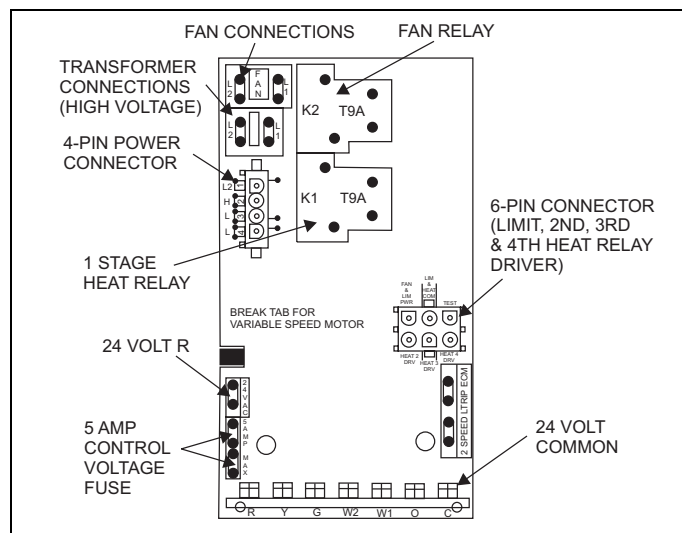

FIGURE 8: Control Board
The low voltage transformer and fan / heater control, are standard on all models. See Figure 8. The air handlers are shipped pre-wired to operate as cooling only applications. To complete the installation for cooling only, install the 6-pin jumper plug to the control board to bypass the heater limit controls. This jumper plug is secured to the duct cover near the 4-pin power plug harness. Failure to install the plug will cause the blower to run continuously. (See Figure 8).
1. Remove the 4-pin power plug from the control board (See Figure 8).